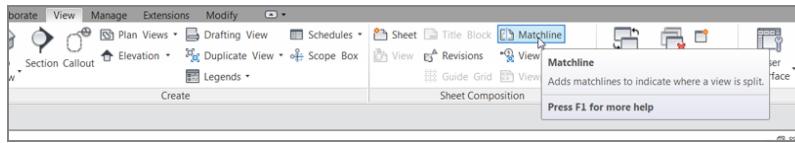

FIGURE 13.9: The Matchline button on the View tab
2. On the Sheet Composition panel of the View tab, click the Matchline button, as shown in Figure 13.9.